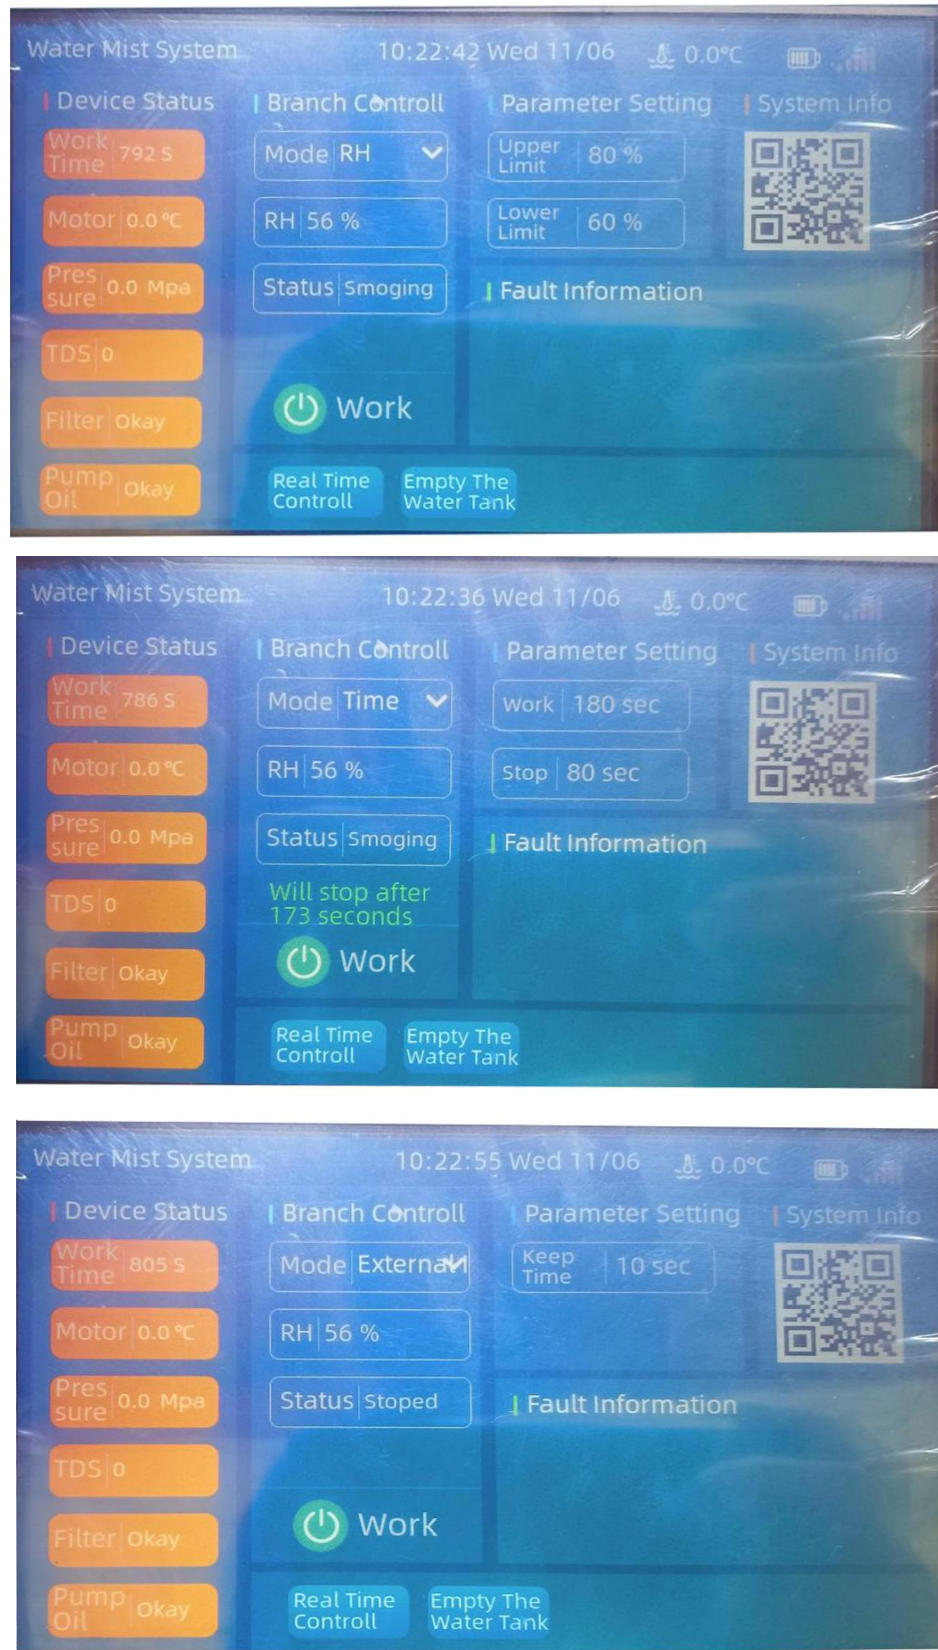

Figure 1-1 Interface of operation and parameter setting
Figure 1-1 shows the running interface, under which the user can select the host control mode and set the parameters, The control mode is divided into humidity, time, manual, linkage four control modes: ① humidity mode, factory Set the upper humidity limit 80% and lower humidity limit 60%. The primary chance control humidity is within this range. The user can Set the upper and lower limits of humidity freely according to the situation.; ② In time mode, the host works according to the set running time And stop time cycle operation; ③ manual mode, the host will always running; ④ linkage mode, The control system provided by the user controls the start, stop and operation of the host, and the host opens when the customer signal is in place Start, when the customer signal is disconnected, the host delay is closed, and the delay